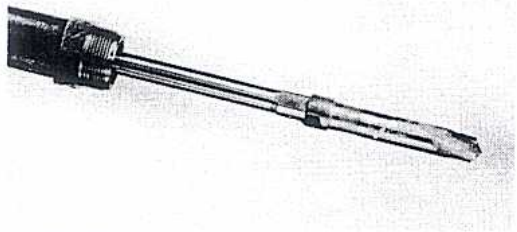

FIGURE 11
4. Coat drill thoroughly with MUELLER Cutting Grease. FIGURE 11.